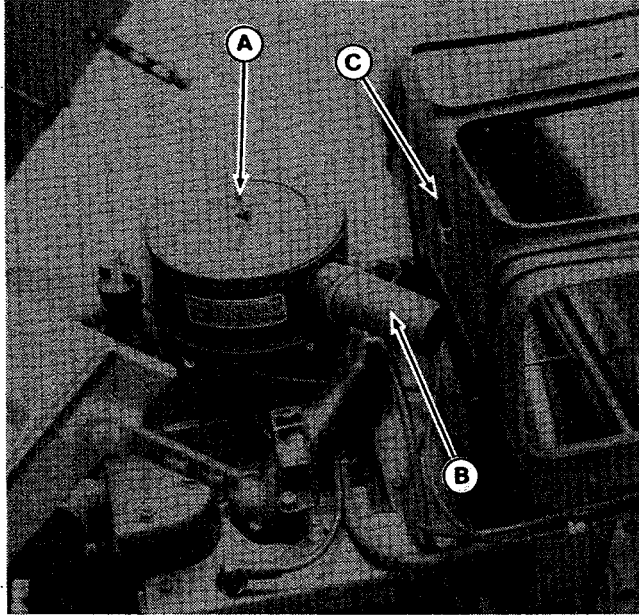

Figure 3B
1. For winter operation, loosen the air cleaner cover wing nut (A, figure 3B) pull intake hose (B) out of plenum hole (C) and rotate cover slightly.